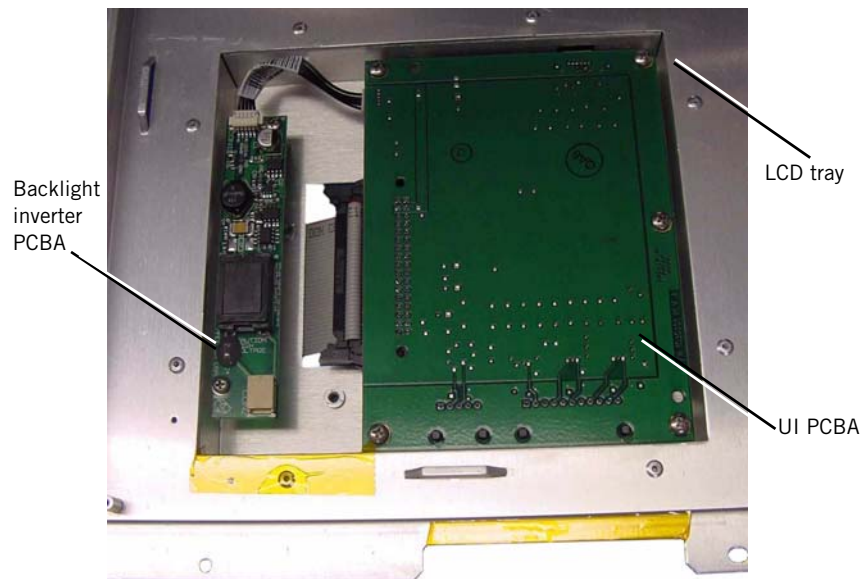

Figure 7-37: Removing the LCD Tray
7.36 LCD Tray Follow these steps to remove the LCD tray (Figure 7-37). Reverse to install.